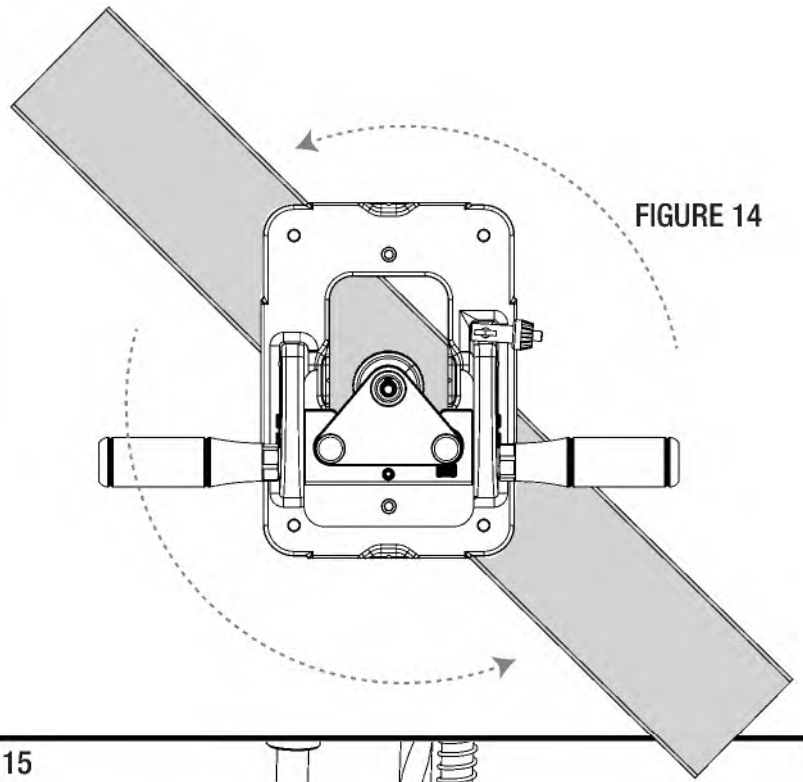

FIGURE 14
2. Place the AutoAngle Drill Guide on the workpiece and rotate the workpiece counterclockwise until both Centering Buttons come in contact with the work piece. **FIGURES 14 & 15.**